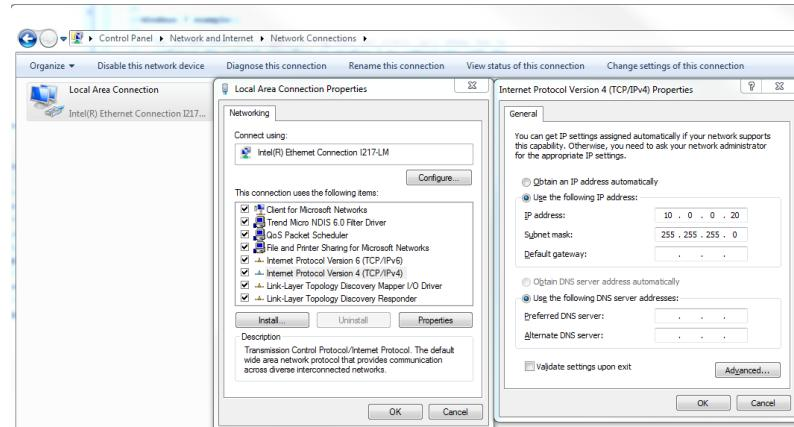

Figure 7.1 Setting static IP address 10.0.0.20 in Windows 7
The screen-shot in **Figure 7.1** shows how to configure the network interface in Windows 7 to communicate with the Virtuoso via Ethernet M.1 with factory default settings. The IP address/netmask is set to 10.0.0.20/255.255.255.0 which is on the same subnet as the Virtuoso, and does not conflict with the IP address of the device.
1. Connect an Ethernet cable directly between the PC and the Ethernet port of choice on the Virtuoso. Configure the PC to be on the same subnet as the Virtuoso. See Figure 7.1.